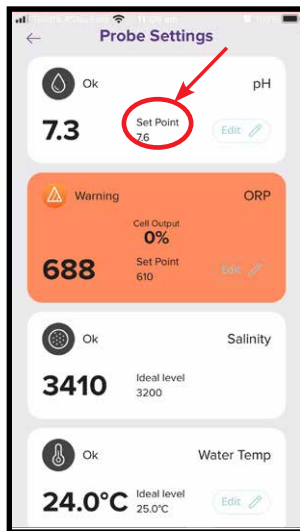

Figure 8.12
- Once you're back to the probe setting menu, you'll notice that the pH set point has changed (refer figure 8.12)